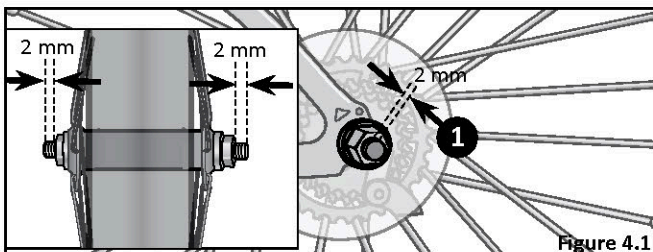

Figure 4.1
1. To ensure secure attachment of the coupler to the bicycle, be sure the thread of the *rear axle* extends at least 2 mm's from the hub nut *before* proceeding to the next step. **Figure 4.1**